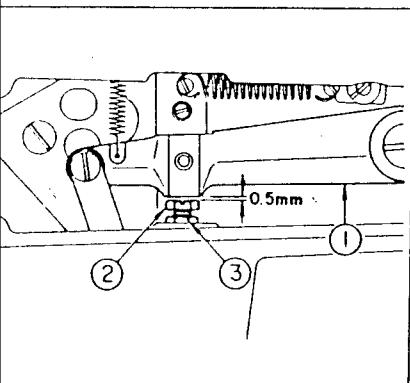

Fig. 3
3) Clearance between the button clamp lifting lever and the adjusting screw (Fig.3)